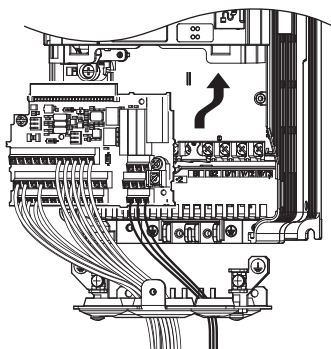

Figure 7.31 Drive Replacement: Installing the Control Terminal Board
1. After wiring the main circuit, connect the terminal block to the drive as shown in Figure 7.31. Use the installation screw to fasten the terminal block into place.